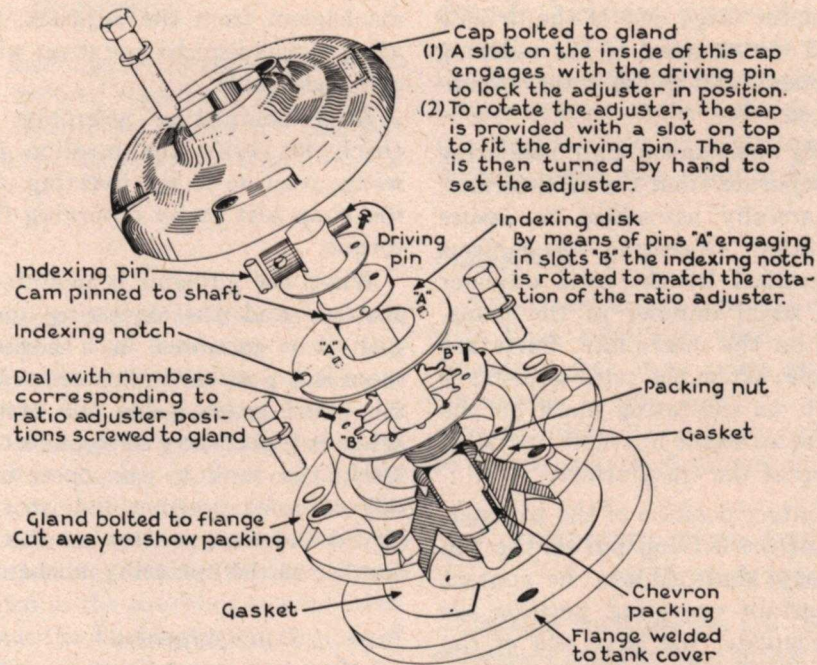

Fig. 7. Details of Operating Mechanism for Wedge-type Adjuster
Wedge Type (See Fig. 7)
Fig. 7 shows the parts of the operating mechanism and position-indicating device located either on the transformer tank wall or on the cover. Do not disturb the mechanism assembly unless it is necessary to tighten the stuffing box. If the relation of the pins (A) to the slots (B) is changed from the factory setting, wrong contact position and indicated tap change will result.